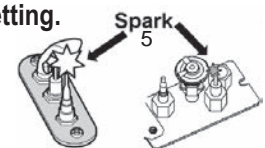

Fig 3
2. SET ON/OFF SWITCH (1) TO "OFF" POSITION.
- Wait five (5) minutes to clear out any gas, then smell for gas, including near the floor. If you smell gas, STOP! Follow "B" in the safety information above on this label. If you don't smell gas, go to the next step.
3. **AUTOMATIC IGNITION** (fig. 1): Locate the pilot (fig 3.) inside of firebox.
- ON/OFF switch (1) in ON position, MAN-knob (2) in ON position; set Flame Adjustment knob (3) to lowest setting (∩)
- When the pilot is lit, the Flame Adjustment knob (3) will automatically rotate to the highest setting.
4. **MANUAL IGNITION** (fig. 2): With the window off, locate pilot (fig 3.) inside firebox;
- ON/OFF switch (1) in ON position, MAN-knob (2) in MAN position;
- Set Flame Adjustment knob (3) to the lowest setting (∩);
- Push down the metallic core (4) with a pen or similar instrument; this will establish the pilot gas flow;